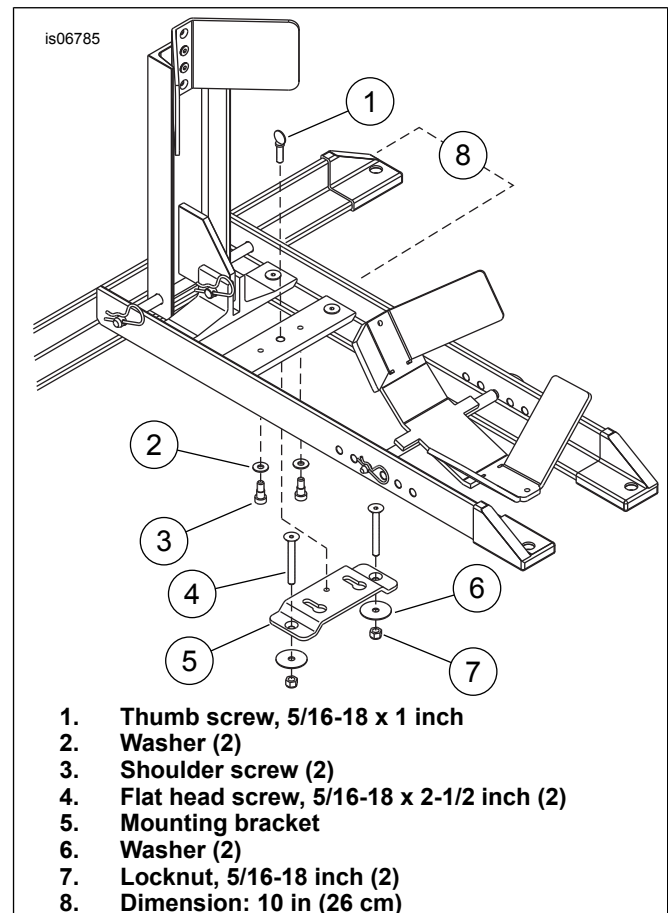

Figure 2. Trailer Mounting Kit (Sold Separately)
1. See Figure 2. Install shoulder screws (3) to the wheel chock as shown. Do not use washers (2) at this time. Tighten screws to 24.4 N·m (18 ft-lbs).
2. Locate the trailer bracket (5) as follows:
- a. The bracket mounting location must be at least 26 cm (10 in) (8) from the front of the trailer or any obstruction on the mounting surface that would interfere with the placement of the wheel chock.